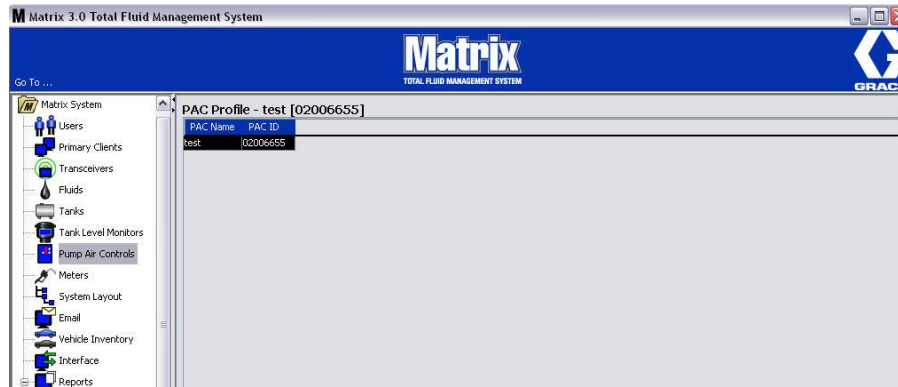

FIG. 129
- The Linked PAC appears on the main screen as shown in FIG. 129.